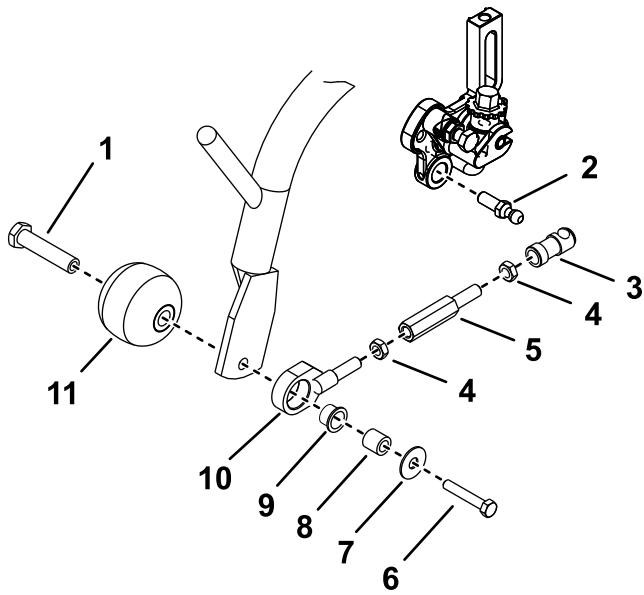

Figure 1
1. Slide back the sleeve on the ball-joint receiver and remove the receiver from the ball stud (Figure 1).
2. Remove the bolts and roller shafts securing the anti-scalp rollers and the pull-link assemblies to each carrier frame (Figure 1).
3. Disassemble the pull-link assemblies (Figure 1).